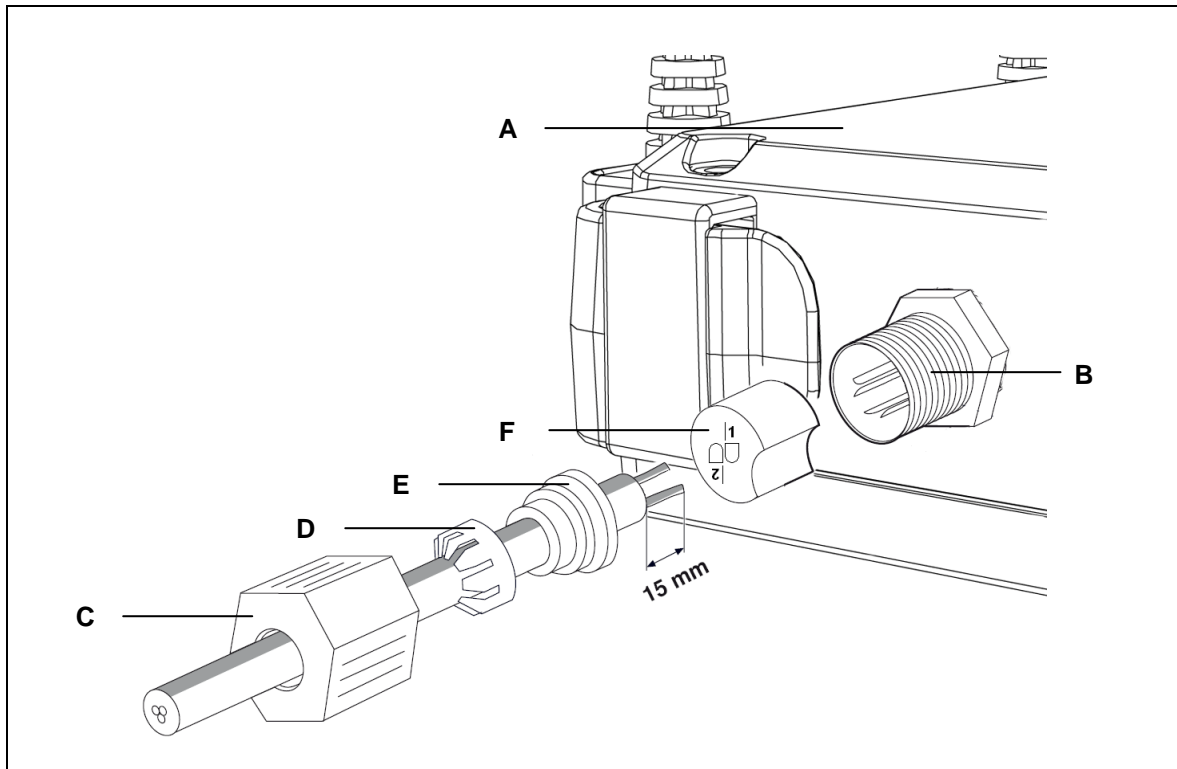

Figure 11 Assembling the QUICKON® fast-connect plug (1)
- 2 Strip about 15 mm of the insulation off the cable (refer to Figure 11). Then insert the coupling nut, the cap and the rubber seal on the cable. Be sure not to strip the wires within the cable!